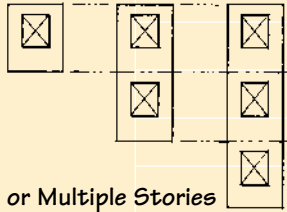

Fig. 2 Single or Multiple Stories
- They are either one story in height and made as wide as possible, or cast narrower to span vertically for two or three floors (Fig. 2)